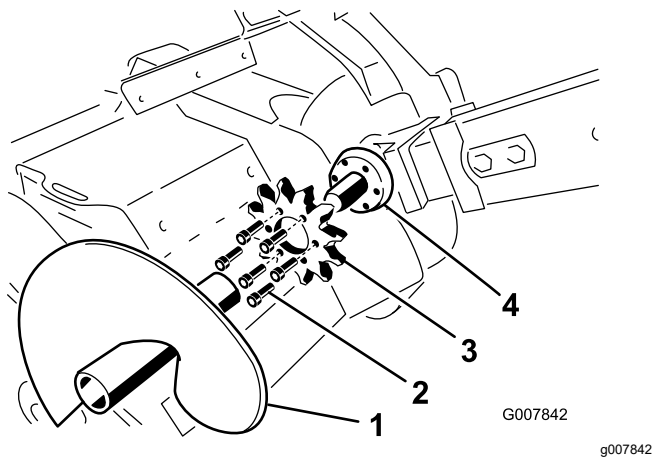

Figure 64
4. Remove the spoils auger (Figure 64).
9. Remove the 6 bolts securing the drive sprocket (Figure 64).
10. Remove and discard the drive sprocket (Figure 64).
11. Clean the sprocket mounting surface on the trencher (Figure 64).
12. Slide the new sprocket onto the shaft (Figure 64).
13. Thread the 6 bolts into the sprocket finger tight (Figure 64).